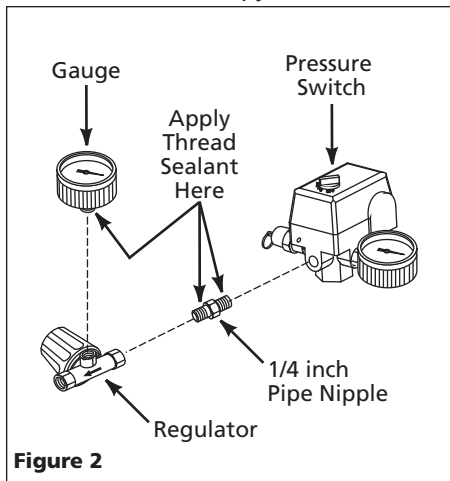

Figure 2
2. The assembly is designed to be attached only to the pressure switch outlet (see Figure 1) by inserting the pipe nipple (see Figure 2) and turning the assembly clockwise. Tighten until snug or 75 in.-lb. Gauge should be oriented the same as the gauge already on the pressure switch (see Figure 1). Attach hose and tire chuck. Check for leaks with soapy water.